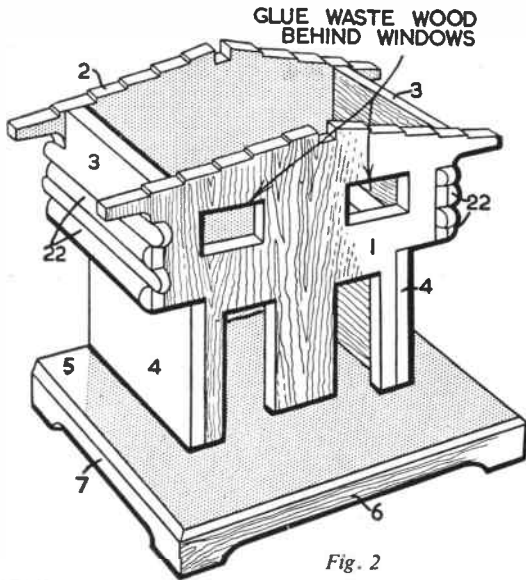

Fig. 2
Continue by erecting the front, back and sides. Pieces 4 are glued to the front (1) and back (2), and the upper sides (3) are similarly glued in position as shown in Fig. 2. The pieces of No. 35 half-round beading (22) can also be added at